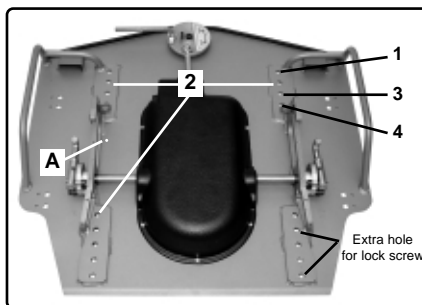

Fig. 3.
6. Attach the self-adhesive tool clamp at position A (Fig. 3).
7. Screw in the keyhole bolts in the hole pattern that suits the user best of the four available from the holes drilled. The standard set-up uses hole 2 (Figure 3). Use washer 10.5x20x2 and nut M10.